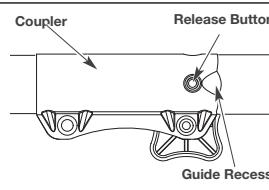

Fig. 4
For decorative edging with a string trimmer attachment, lock the release button into the 90° edging hole (Fig. 4).
- Press and hold the release button (Fig. 4).